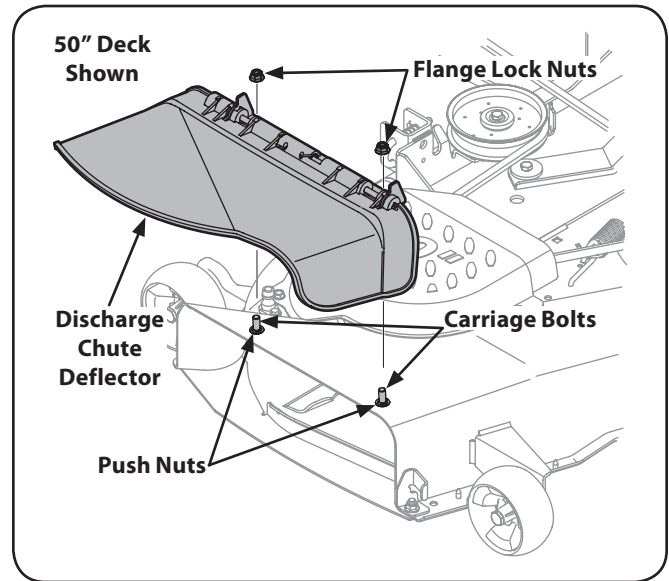

Figure 3-8
3. Install the discharge chute deflector using the carriage bolts, push nuts and flange lock nuts as shown in Figure 3-8 and securely tighten the hardware.